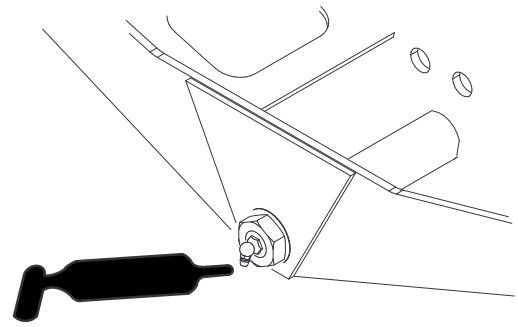

Figure 35
- Axle steering pivot (1) (Figure 35)